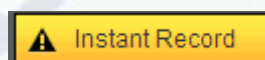

Figure 7-7
- Section 4: Instant record button. Click it, the button becomes yellow and system begins manual record. See Figure 7-7. Click it again, system restores previous record mode..